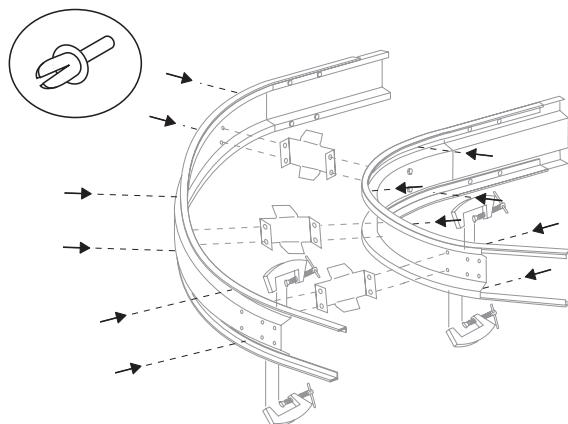

Figure 10
The ends of adjoining wearstrip sections should be trimmed at 60° angles, as shown in *Figure 10*. This angle, in conjunction with the direction in which the angles are cut (discussed below), allows the chain to travel smoothly over the wearstrip joint.
6. A single wearstrip rivet must be installed in every hole throughout the bend. Drill the necessary holes (13/64" [5.5mm] drill bit) in the wearstrip, and install the wearstrip rivets. Refer to *Figure 10*. Remove the clamping devices after all rivets have been installed.